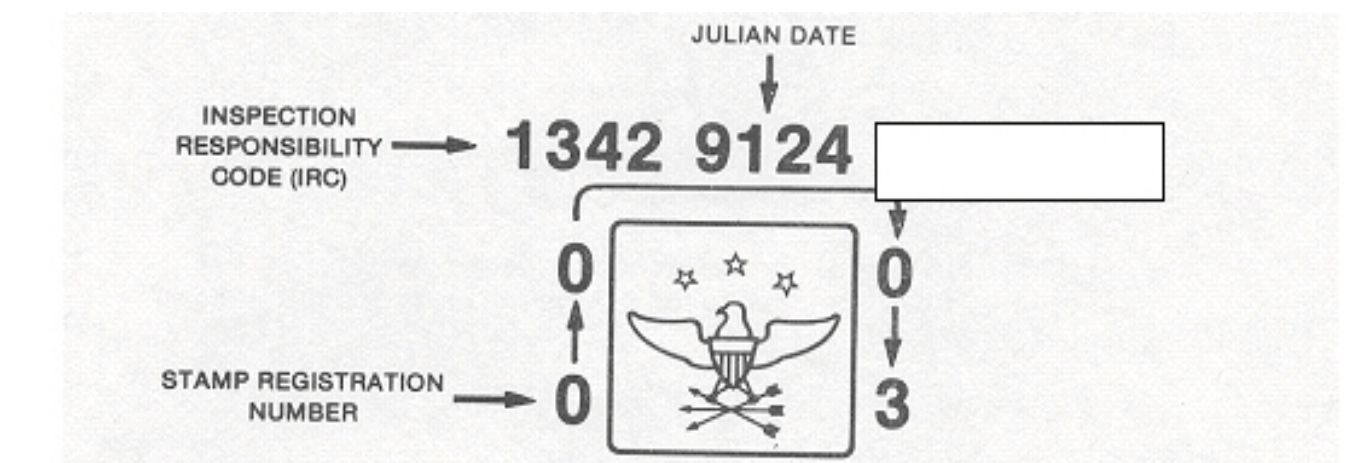

Figure 2-3. Complete inspection approval stamp prepared for use.
(2) The second set of four numbers on the top line above the DOD insignia indicates the Julian date. The Julian date is made up of the last digit of the current calendar year, followed by the sequential day of the present year. For example, in the Julian date 9001, the 9 designates 1989 and 001 designates 1 January. For the Julian date 9365, the 9 designates 1989 and 365 designates 31 December. In figure 2-3, the Julian date is 9124. This designates the year 1989 and the 124th day. The number 124 is the 4th of May. United States government calendars with Julian dates are found in most military offices.